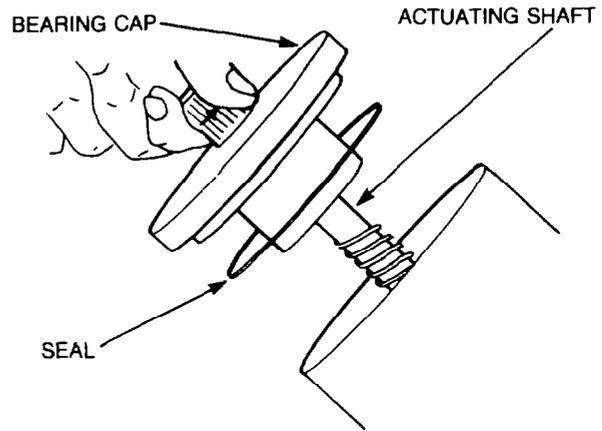

Figure 267 — Bearing Cap and Actuating Shaft — Removal
- h. Support the bearing cap and turn the actuating shaft until the shaft is free of the piston (see Fig. 267), then remove and discard the sealing ring.